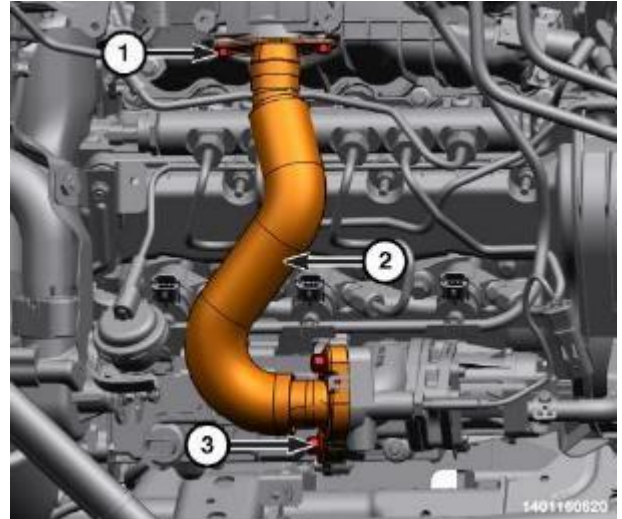

Figure 16 – Upper High Pressure EGR Tube
26. Remove the left side bolts (1) from the upper High Pressure (HP) Exhaust Gas Recirculation (EGR) tube (2) (Figure 16).
27. Remove the right-side bolts (3) and the upper HP EGR tube (2) (Figure 16).